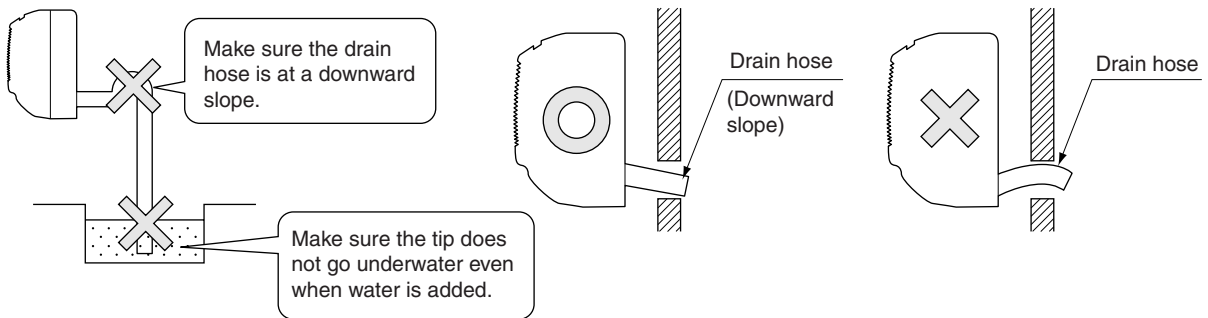

Fig. 16
(1) Install the drain piping. (Refer to Fig. 16)
- Pay close attention to the directions in Figure 16 when performing drain work.